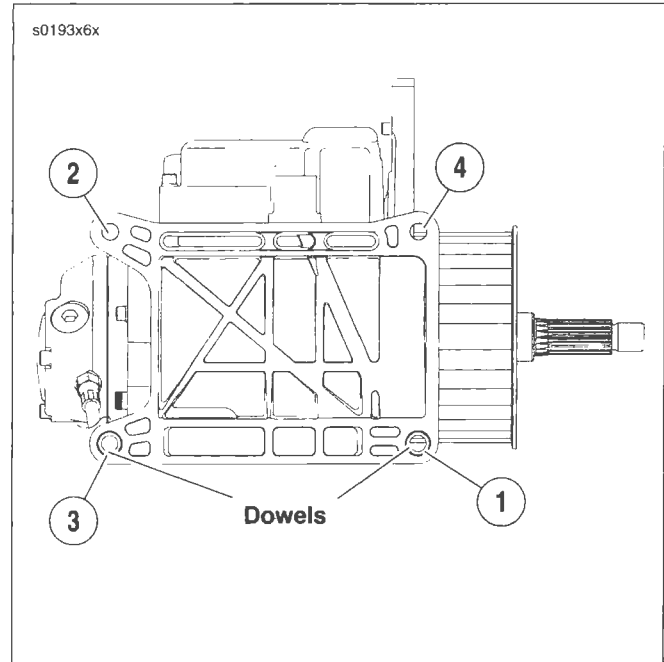

Figure 3-15. Transmission Case Hardware
8. See Figure 3-15. Install transmission case from the right side. Align all four transmission mounting holes verifying that the two lower locating dowels engage their holes in crankcase. Tighten the four transmission mounting bolts in a criss-cross pattern as follows.